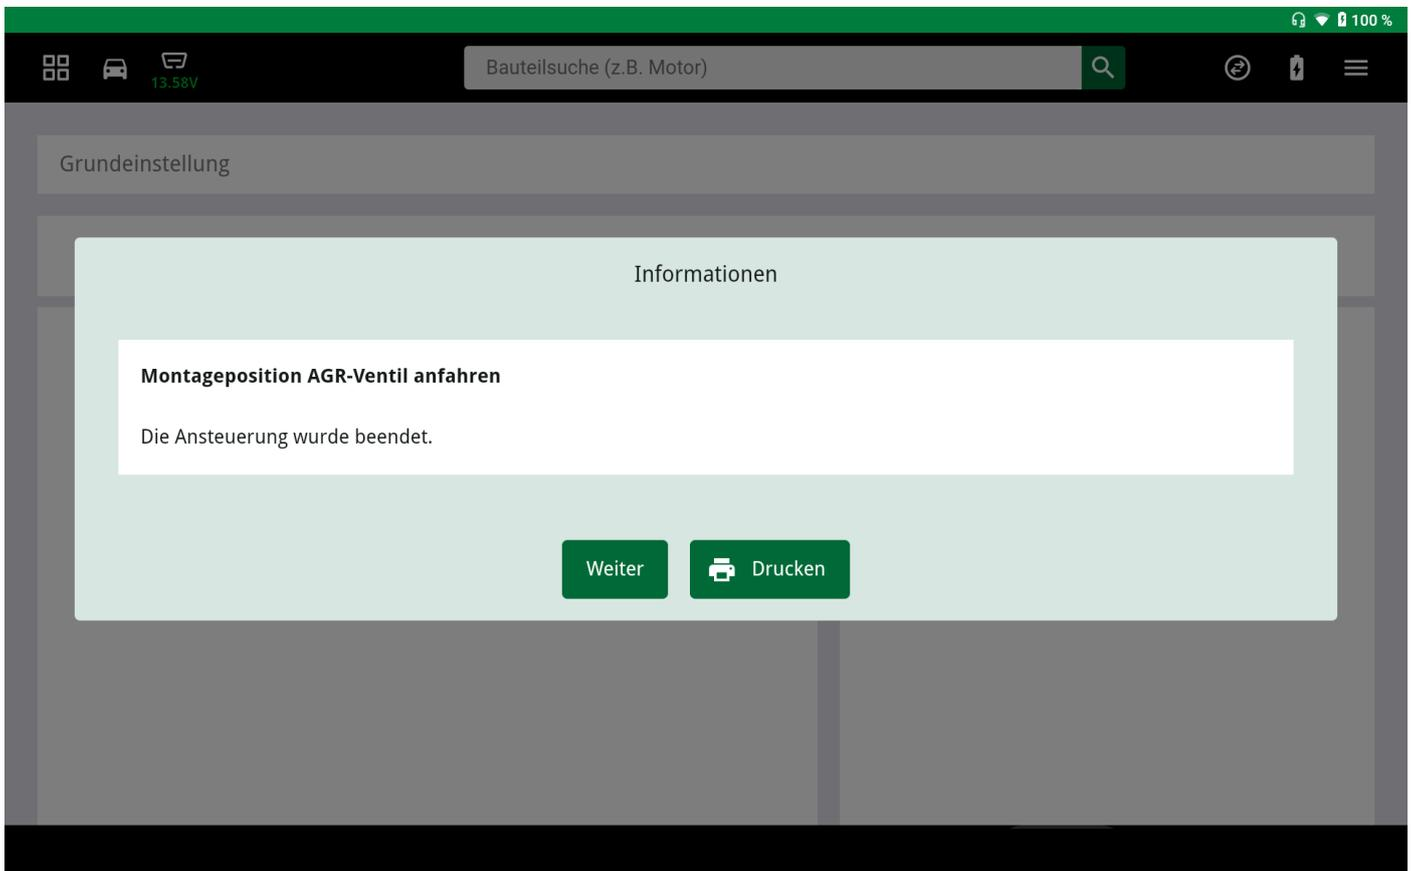

Fig. 7) After installation – switch off ignition
- Switch off the ignition after installation (see Fig. 7)